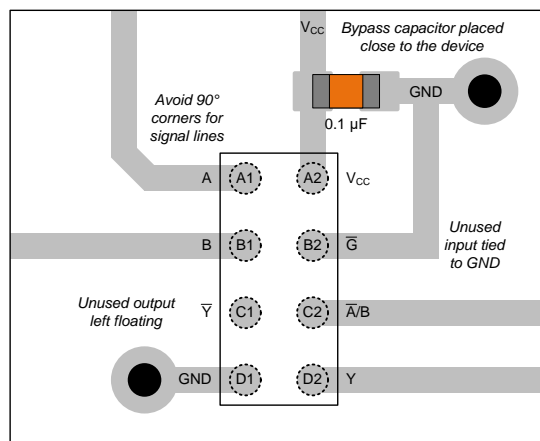

Figure 7. Example layout for SN74LVC2G157
1. Add a decoupling capacitor, typically 0.1 μF , from V_{CC} to GND. The capacitor needs to be placed physically close to the device and electrically close to both the V_{CC} and GND pins. An example layout is shown in Figure 7.
The power supply can be any voltage between the minimum and maximum supply voltage rating located in the Recommended Operating Conditions. Each V_{CC} terminal should have a good bypass capacitor to prevent power disturbance. A 0.1- μ F capacitor is recommended for this device. It is acceptable to parallel multiple bypass caps to reject different frequencies of noise. The 0.1- μ F and 1- μ F capacitors are commonly used in parallel. The bypass capacitor should be installed as close to the power terminal as possible for best results, as shown in Figure 7.